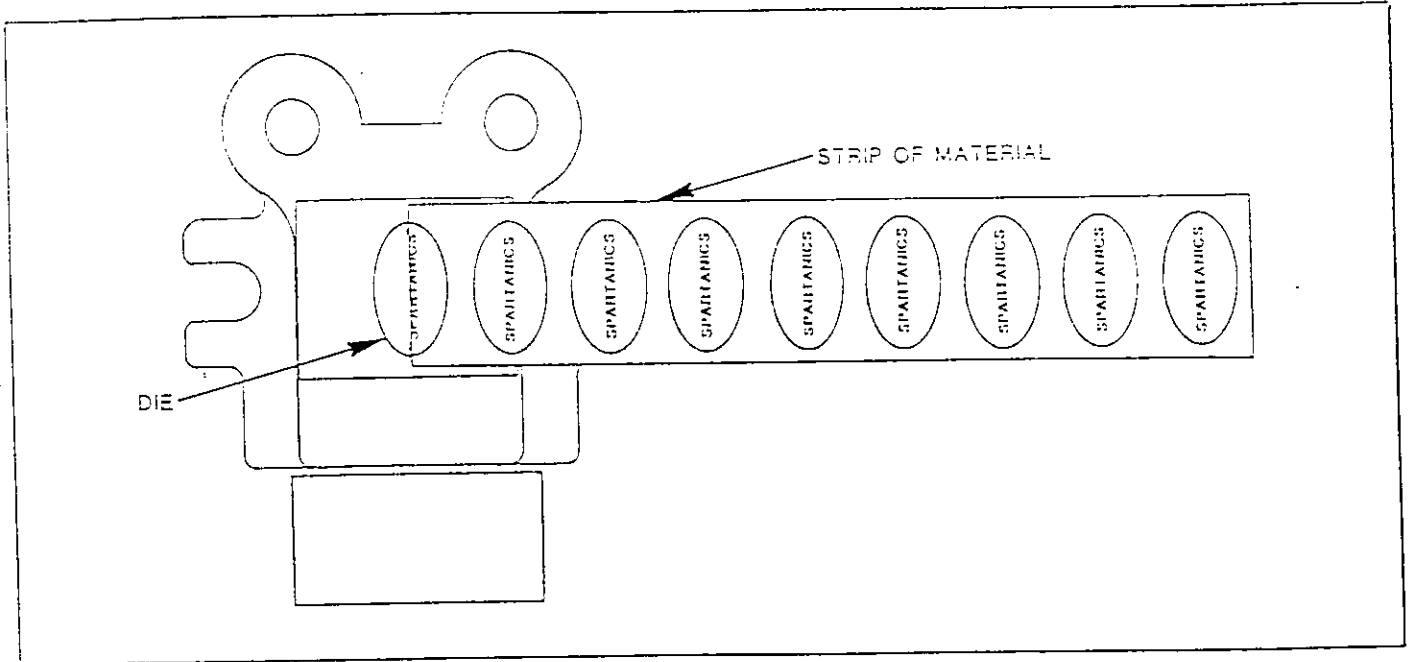

Figure 1-11
STEP 7: Place a strip of material over die as if strip were going to be punched. See Figure 1-11. Try to position strip as accurately as possible with your eye. You may want to bend or cut strip through the middle of a part to aid in positioning the strip.